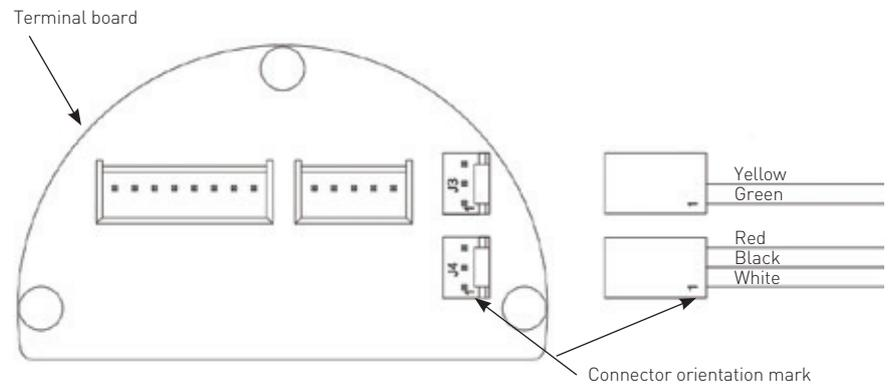

Figure 4-4
- 4.5.3 Locate J3 and J4 connectors on the bottom of terminal board and connect the two part remote cable plugs as shown. See Figure 4-4.